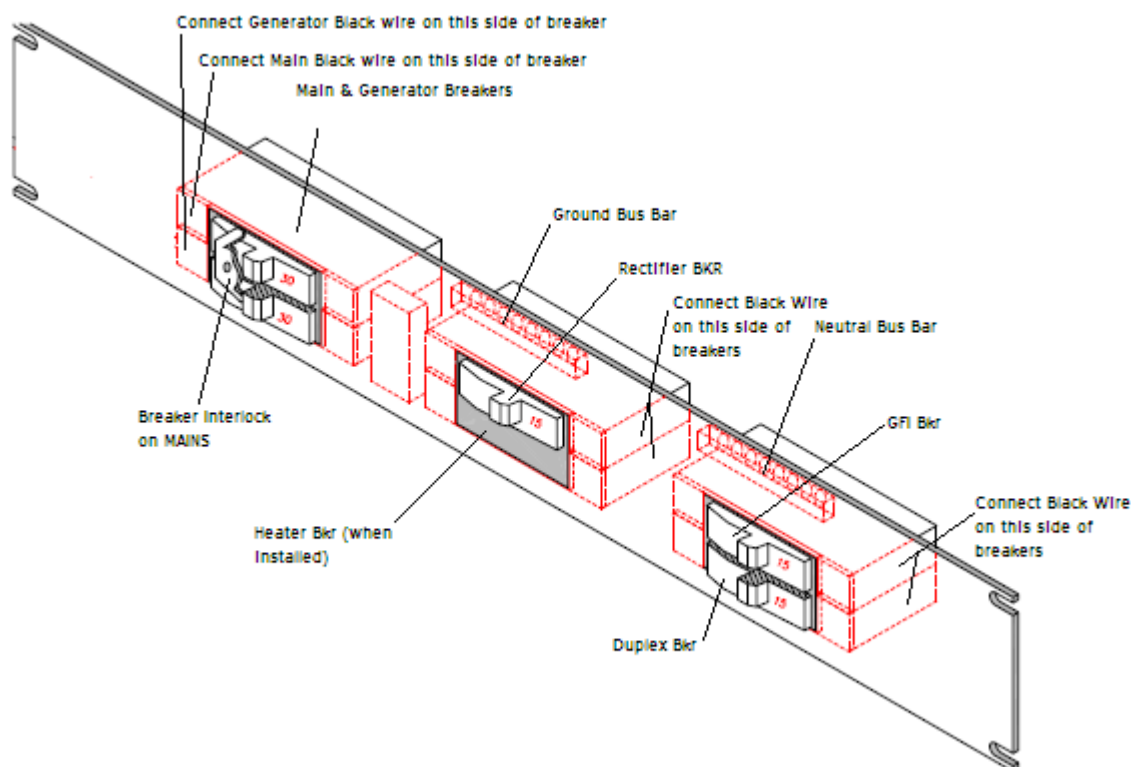

FIGURE 2.0
**INSTALLATION NOTES** Reference Figure 2.0